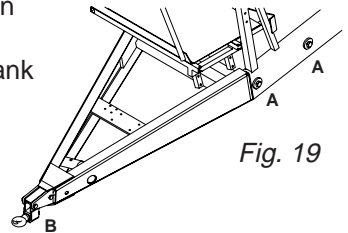

Fig. 19
2. Tighten the bolts **A** (Fig. 19) between tank frame and draw bar. Torque setting: 554 lb/ft (750 Nm)
3. Tighten bolts **B** (Fig. 19) at the towing hitch. Torque setting: 162 lb/ft (220Nm)